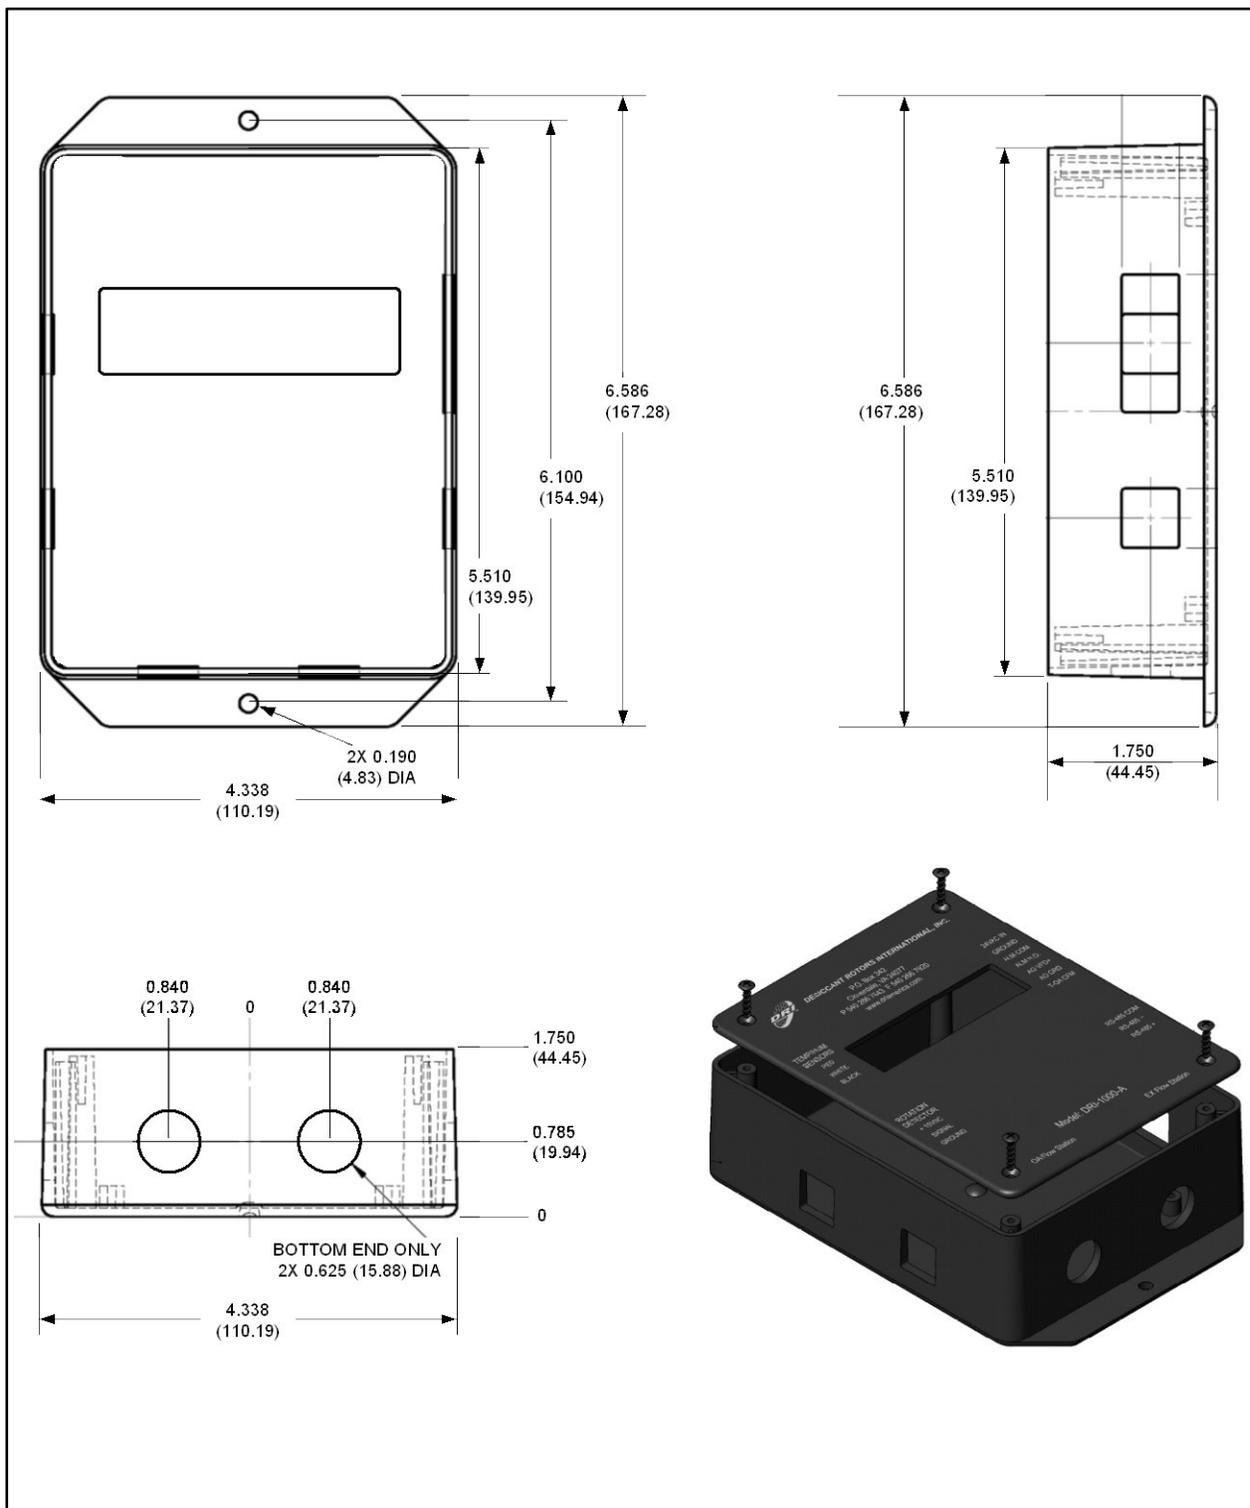
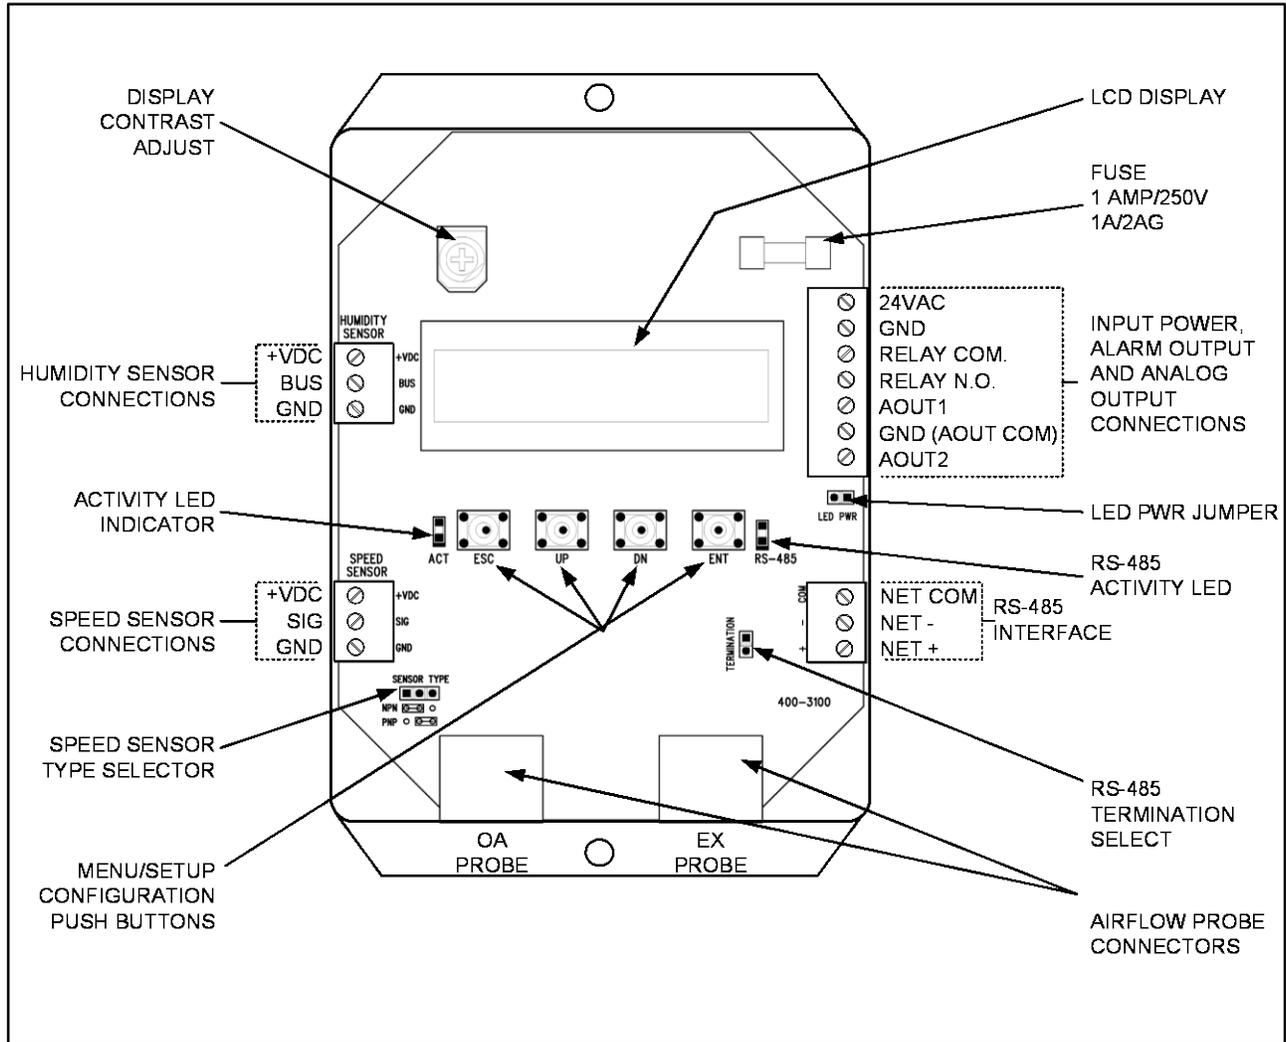

Figure 2. DRI-1000-A Controller/Display Unit Mechanical Detail
Figure 5. DRI-1000-A Controller/Display Unit Detail View
Figure 5 is a detail view of the Controller/Display unit showing the main circuit board and features. Refer also to Figure 2 for dimensional details.
Refer to the detail views and mechanical dimensions of the DRI-1000-A system components as shown in Figures 2 through 7.
1. Refer to the manufacturer's specifications to determine the sensor output (NPN or PNP type output), and set the SENSOR TYPE jumper to the matching position (see Figure 5).
The DRI-1000-A must be installed in a field accessible location with sufficient service clearance to permit cover removal. The enclosure accepts signal and power wiring at the side mounted terminal blocks, and optional airflow probes at the bottom of the enclosure as shown in Figure 5. Ensure that the planned instrument location will allow sensor, probe, power and network wiring to reach the associated connections on the Controller/Display unit.
3. Refer to Figure 5 and mark the locations of the two mounting holes through the enclosure mounting flanges.
DRI-1000-A wiring consists of connecting all sensor cables, the 24VAC input power, the analog and RS-485 network outputs and the optional alarm outputs at the Controller/Display unit. Refer to Figure 5 for additional detail. Following installation, review and perform the initial start-up and set up procedures in the later paragraphs.
Wiring connections to the DRI-1000-A are accomplished at the screw-type terminal blocks of the instrument as shown in Figure 5. To prevent damage to the DRI-1000-A or other connected devices, the following precautions must be observed: